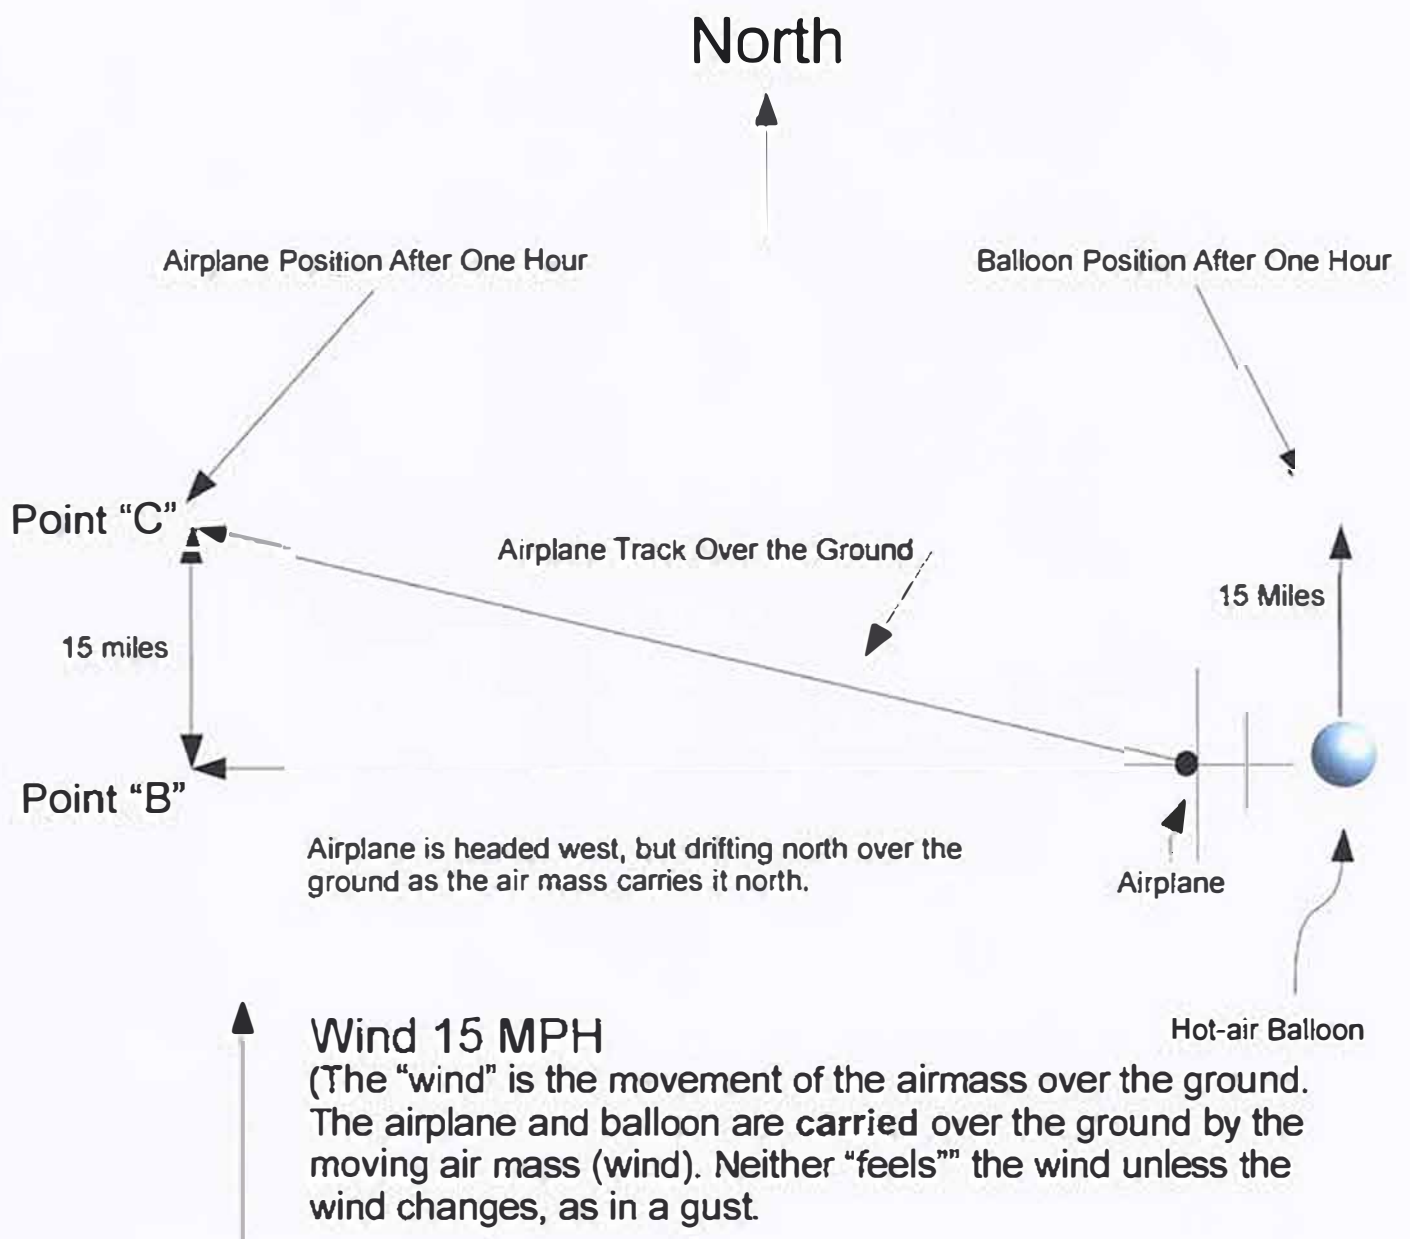

Figure 3.
**Refer to Figure 3.** When flying with a crosswind the movement of the air mass causes the airplane to move sideways with a drift angle, but only in relation to its intended flight path over the ground. The airplane is actually flying **straight** through the air mass. To prevent the airplane from drifting from the